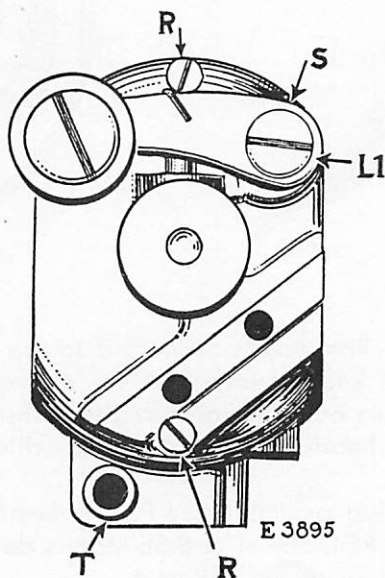
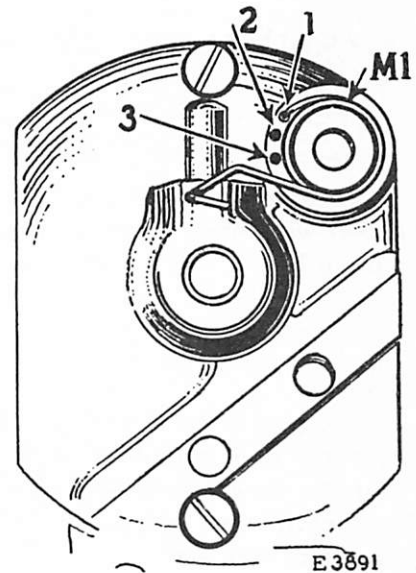

Fig. 15. Removing Idler Lever on BT Motor
Fig. 16. Adjusting Tension on Idler Pulley of BT Motor
**ADJUST IDLER**—If idler pulley does not press on belt with sufficient tension to take up slack in belt, more tension may be secured by removing screw L1 and idler lever S, Fig. 15 and moving the end of spring M1, Fig. 16 from hole 1 to hole 2. Further tension can be obtained by moving the spring to hole 3. Too much tension, however, will overload the motor, causing it to run slow and overheat.